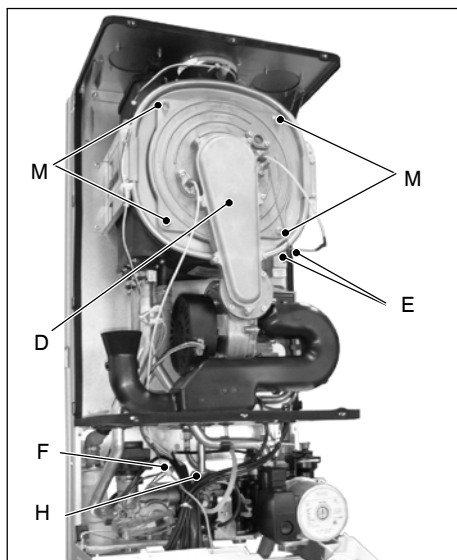

Fig. 9.5
To remove the burner–fan group D (Fig. 9.5):
- 3 Disconnect the connectors of the ignition electrodes E and detection electrode F (Fig. 9.5).
- 5 Unscrew the gas connector H (Fig. 9.5).
- 8 Remove the nuts M (Fig. 9.5) and the burner–fan group D.